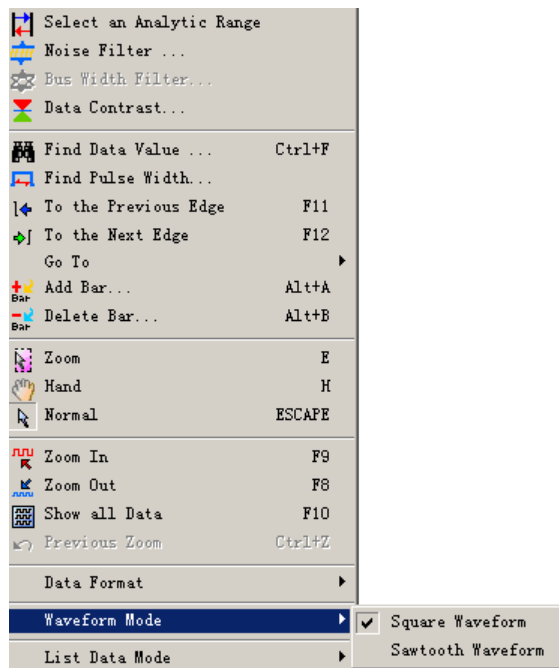

Fig. 6-7 – Waveform Mode
- A: Yes, you can. There are two ways to do this. First, go through **Data → Waveform Mode** and choose a waveform. See Fig. 6-7.